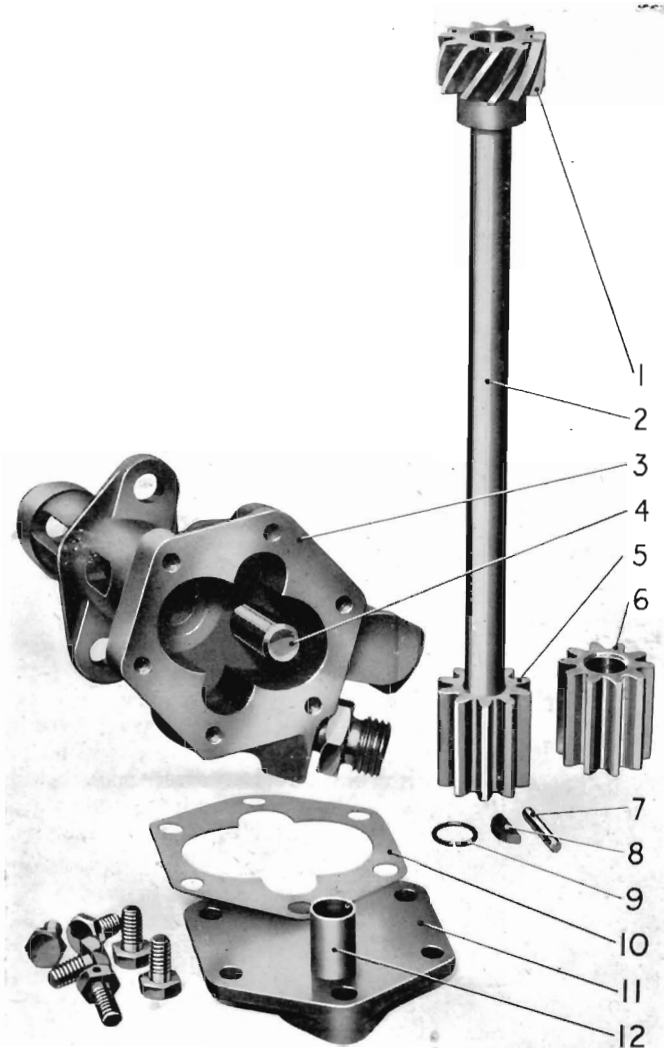
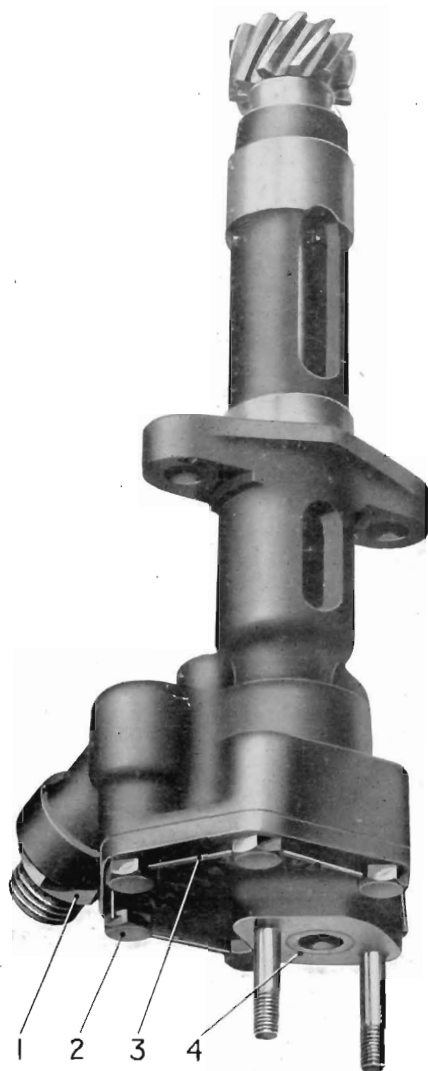

Fig. 9.
Fig. 10.
To dismantle the oil pump, take off the locking wire (3), Fig. 10, and remove the six setscrews securing the cover and remove the cover. The idler gear spindle (4), Fig. 9, can be punched out from the top, the skew gear (1) on the upper end of the driving spindle is secured by a taper pin. Drive out the taper pin and the spindle can be drawn through the skew gear. The pump driving gear is keyed on the spindle and secured by a circlip.